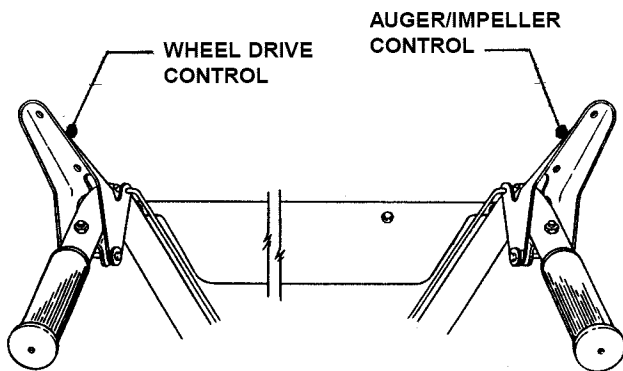

FIGURE 2.1
2.1.3. Check auger control and wheel drive control to insure cables are connected and both levers operate freely. See Figure 2.1.